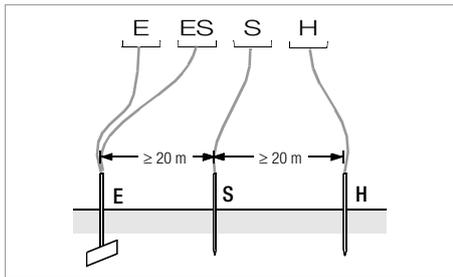

Figure 3 Measuring Earthing Resistance with a 4-Wire Test Setup
- Position the probe at least 20 meters, and the auxiliary earth electrode at least 40 meters from the earth electrode (see also Figure 3 on page 19).